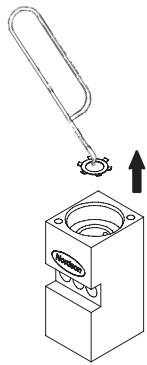

Figure 9-11 Removing the retaining ring
6. See Figure 9-11. Use the retaining ring removal tool (or a similar tool) to remove the retaining ring from the module body.